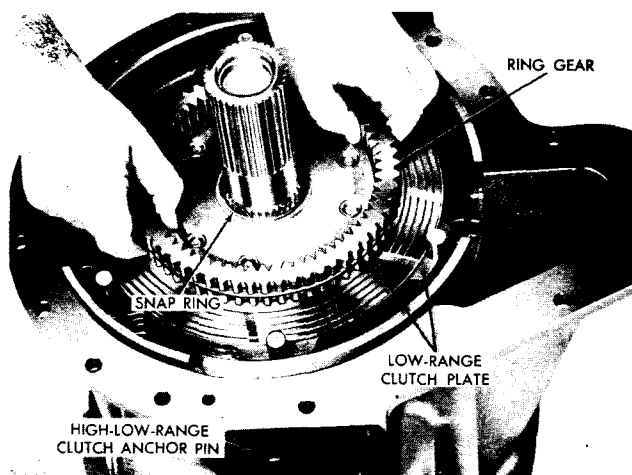

Fig. VII-19. Installing (or removing) low-range ring gear
(6) Install four internal-splined and three external-tanged low-range clutch plates. Begin with an internal-splined plate, alternate the plates, ending with an internal-splined plate (fig. VII-19).
(7) Install the low-range planetary ring gear, long splines down, into the splines of the clutch plates (fig. VII-19).